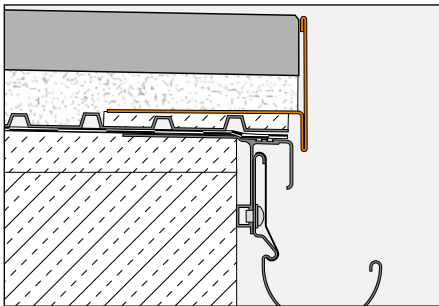

Fig. 1
Installation with self-supporting pavers on mortar contact points or gravel/crushed stone beds (Fig. 1 to 3)
- 3.1 When using Schlüter-BARA-RT as a gravel retaining edge (Fig. 1), the gravel should reach just below the upper edge of the vertical profile leg, depending on the thickness of the covering. Now the concrete pavers are loosely installed on the levelled gravel bed.